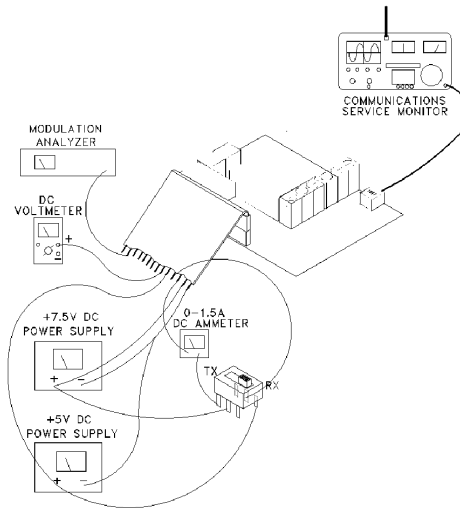

**Figure 6-2 RECEIVER TEST SETUP**
1. Connect the test setup shown in Figure 6-2. Adjust the power supply for +7.5V DC.